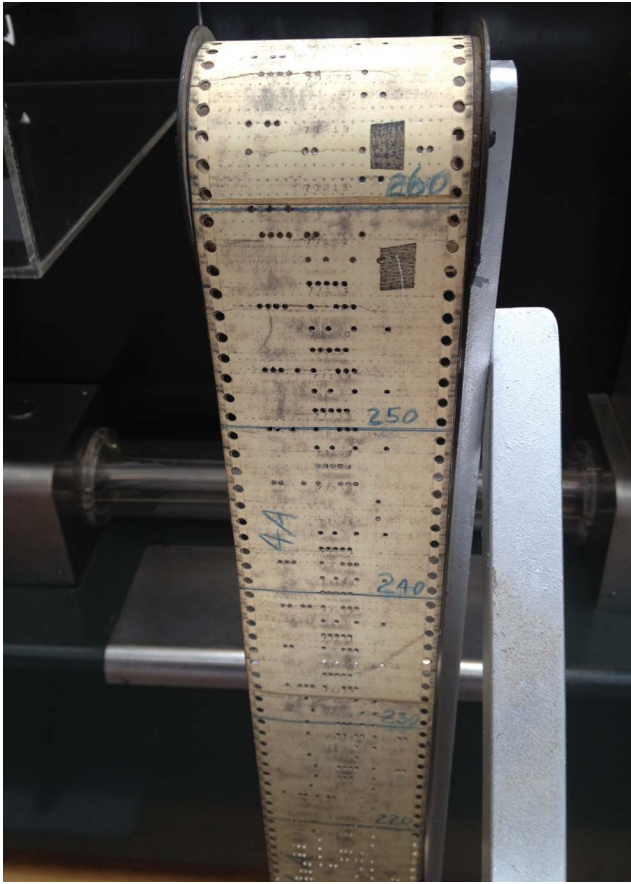

FIGURE 3-1: Paper tape program IMAGE COURTESY OF WIKIMEDIA COMMONS
*T*hough the fundamentals of machine automation go back to the Jacquard loom in the beginning of the 19th century, John Parsons was awarded patent #2,820,187 in 1958 for "Motor Controlled Apparatus for Positioning Machine Tool" and invented numeric control (NC) as we know it today. Early NC machines used punched tape to record sequences of operations. When computers began directly controlling the machines, computer numeric control (CNC) became a powerful new force in manufacturing. (See Figure 3-1.)